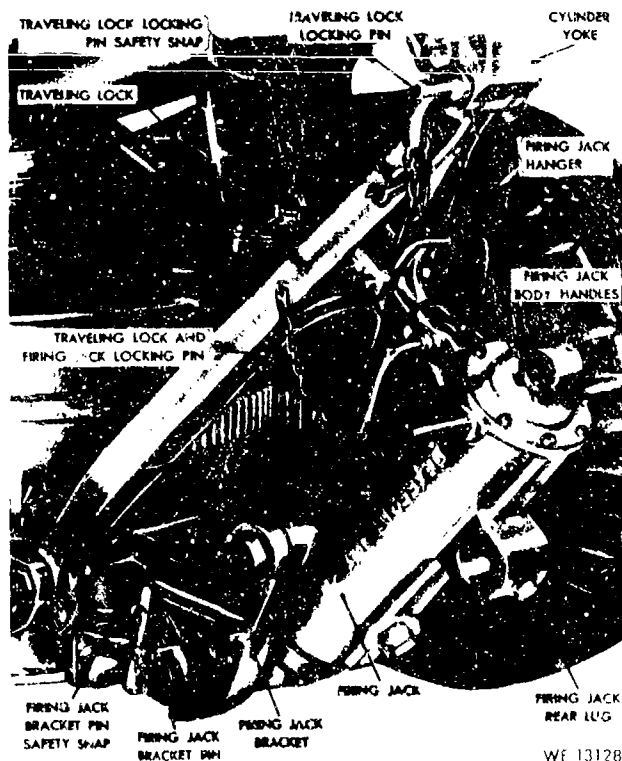

Figure 5-8. Carriage M1A2 firing jack and traveling lock—traveling position.
(3) The traveling lock for carriage M1A2 is equipped with a firing jack hanger (fig 5-8), whereas the traveling lock for carriage M1A1 is not so equipped.